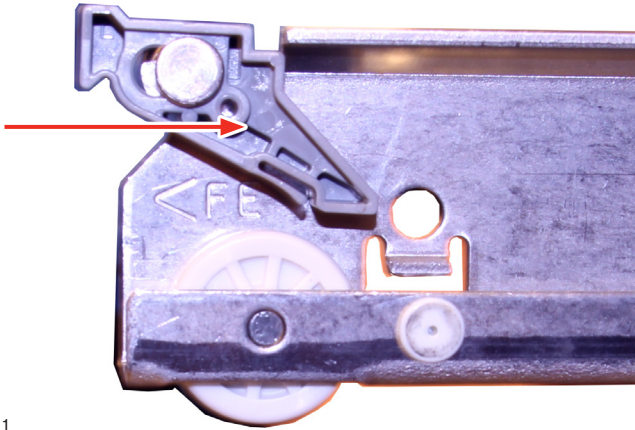

Fig. 21
2. Gently set the drawer rails back onto the rollers on the end of the drawer sliders, and push the drawer in until completely closed (Fig. 21).